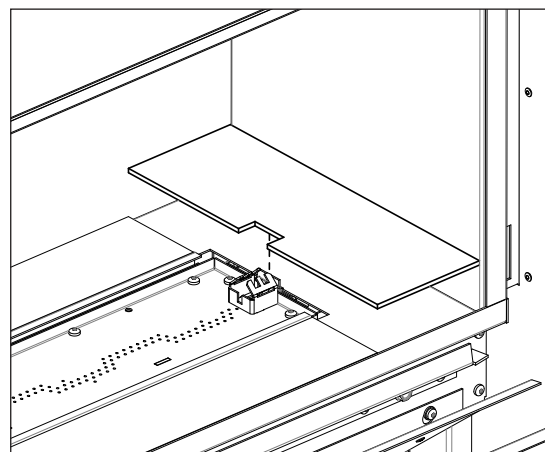

Figure 72: Burner Placement Around Pilot
3. Ensure that the short, notched bezel is placed around the pilot assembly as shown in Figure 72.